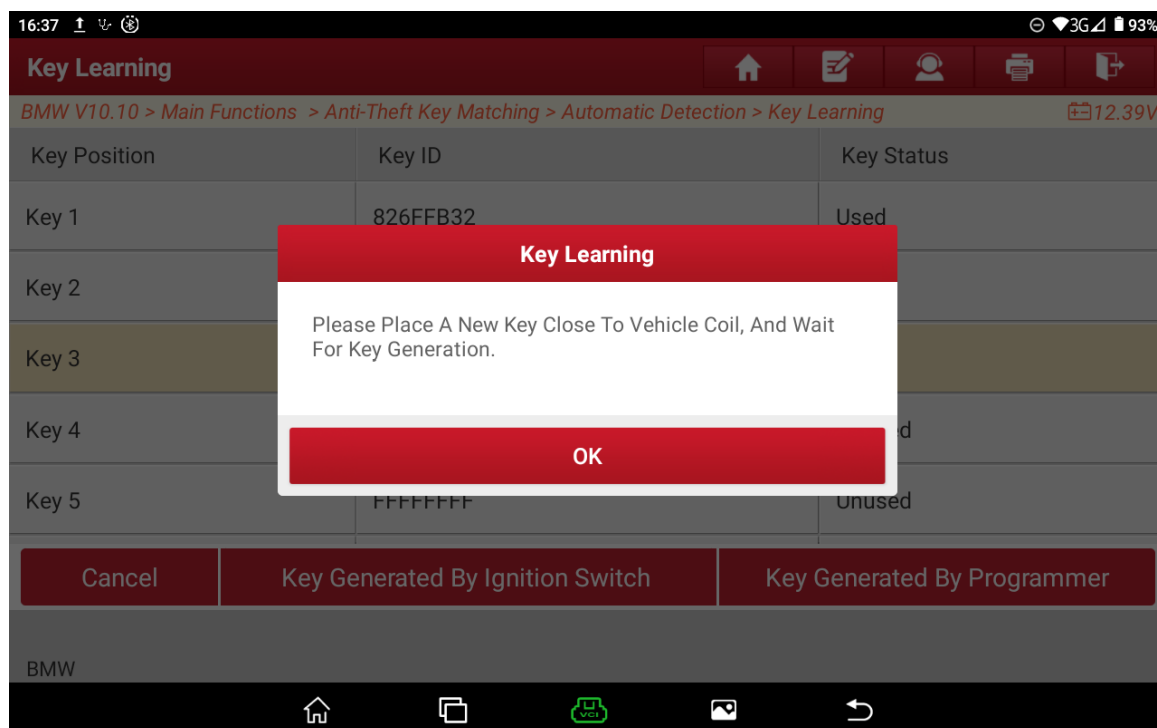

Figure 39
39. Place a new key close to the vehicle key sensing point and wait for the key to be successfully generated. Select “OK”, as shown in Figure 39.